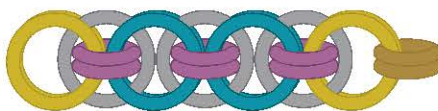

FIG. 2
2. Thread 2 small (gold) open jump rings through the 2 large (yellow) jump rings at the end of the chain and then close them (**FIG. 2**).